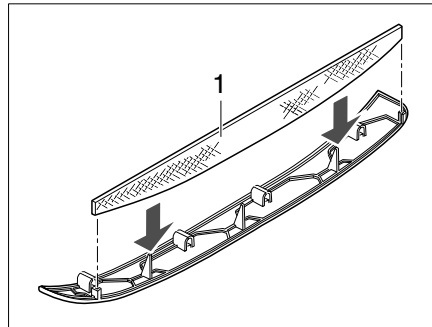
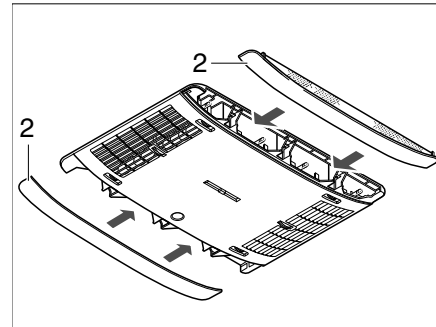

Fig. 377 Lint filter air conditioning unit
Fig. 378 Air conditioning unit panels
Two lint filters are located in the side panels (Fig. 378,2). The lint filters must be cleaned at regular intervals, at least every 6 months however, and replaced if necessary.
- Remove the panels (Fig. 378,2) from the air distribution unit and clean the lint filter (Fig. 377,1) or replace it if necessary.